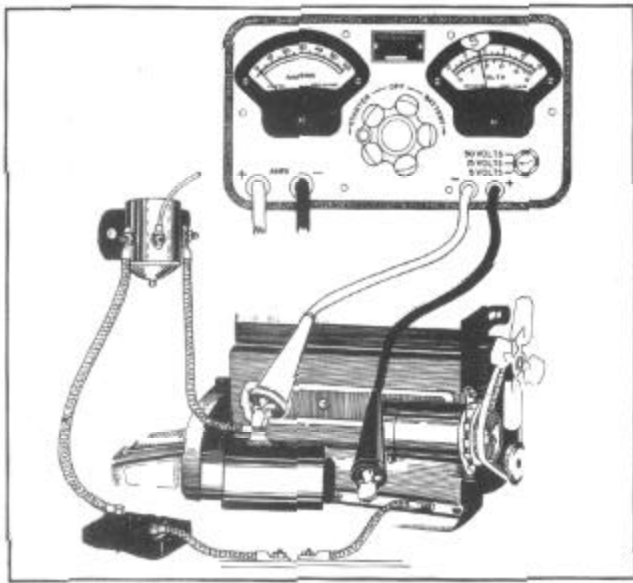

FIGURE 8
1. Connect the negative voltmeter lead of the starter motor tester to the starter switch terminal, Figure 8.